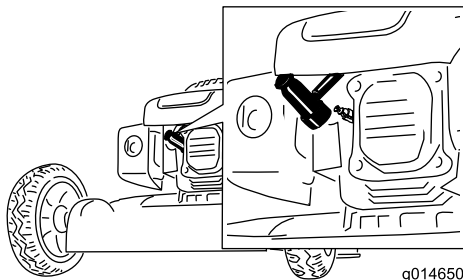

Figure 15
- Disconnect the spark-plug wire from the spark plug (Figure 15) before performing any maintenance procedure.